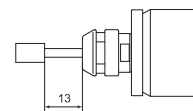

Fig. 14
- Do not exceed 13mm of overhang for mounted grindstones as shown in Fig. 14. If the overhang must exceed 13mm, reduce the speed in accordance with table 2.